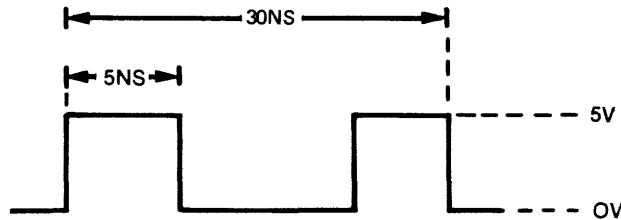

Figure 4-8. Asynchronous Operation Test Waveform
- c. Adjust pulse generator to supply test waveform shown in figure 4-8.